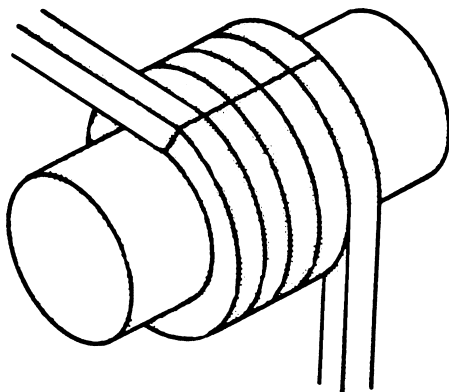

Fig. 4.1.2
Wind 4 turns of the band around the wooden pattern of the same size as the shaft protection sleeve (524). Cut the rings direct and axially with a sharp knife with no under-or over-dimensioning (fig. 4.1.2).